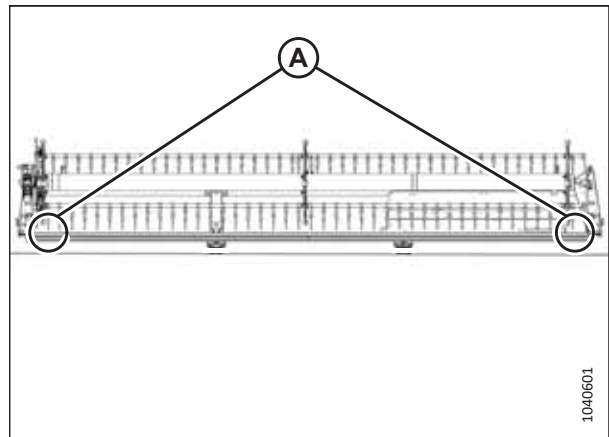

Figure 4.276: Single-Reel Header Measurement Locations
- Figure 4.276, page 414 – single-reel headers